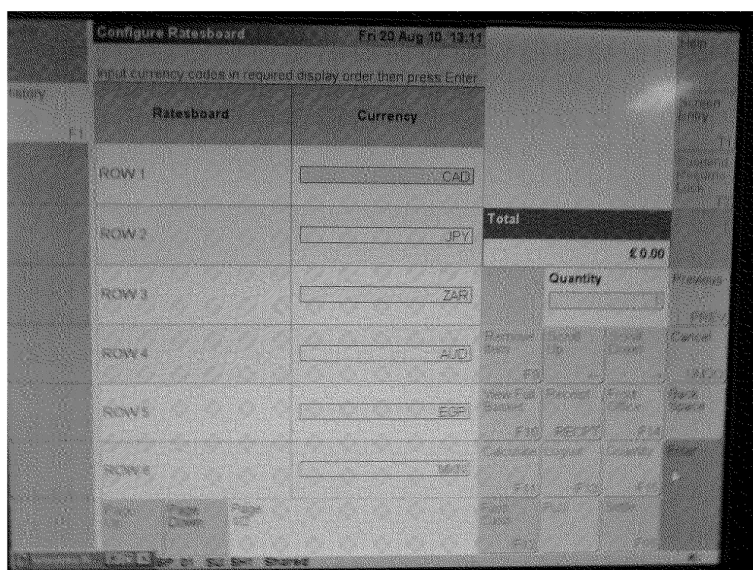

Figure 5
- 4) The Branch Manager must deselect icon or keyboard 34. Currency selection screen will then be displayed, figure 5.